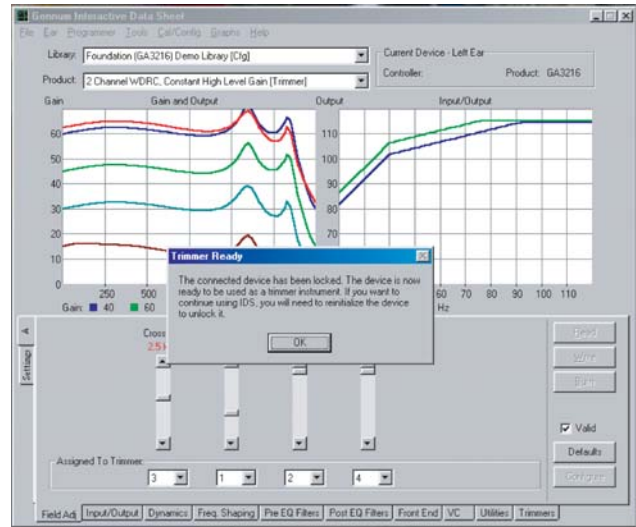

Fig. 3 Locking the device as a trimmer product.
- The next step is to configure the device, which can be done by pressing the 'Configure' button in IDS. This will set the GA3216 into Trimmer mode. A text box will appear once this is completed stating that the device is now locked (See Fig. 3) and can no longer be communicated with. At this point the trimmers are now active and any adjustments can now be made with them.